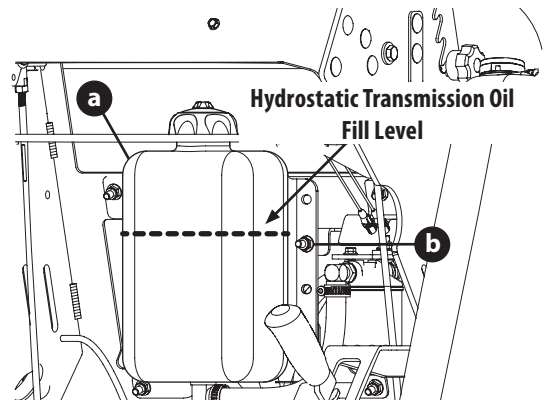

Fig. 26
1. Locate the hydrostatic transmission oil reservoir (a) behind the engine under the control panel (Fig. 26).
2. Ensure the hydrostatic transmission oil reservoir level is just above the upper reservoir mounting bolts (b) (Fig. 26).
7. Add hydrostatic transmission oil until the level is even with the upper reservoir mounting bolts (Fig. 26 on page 21).